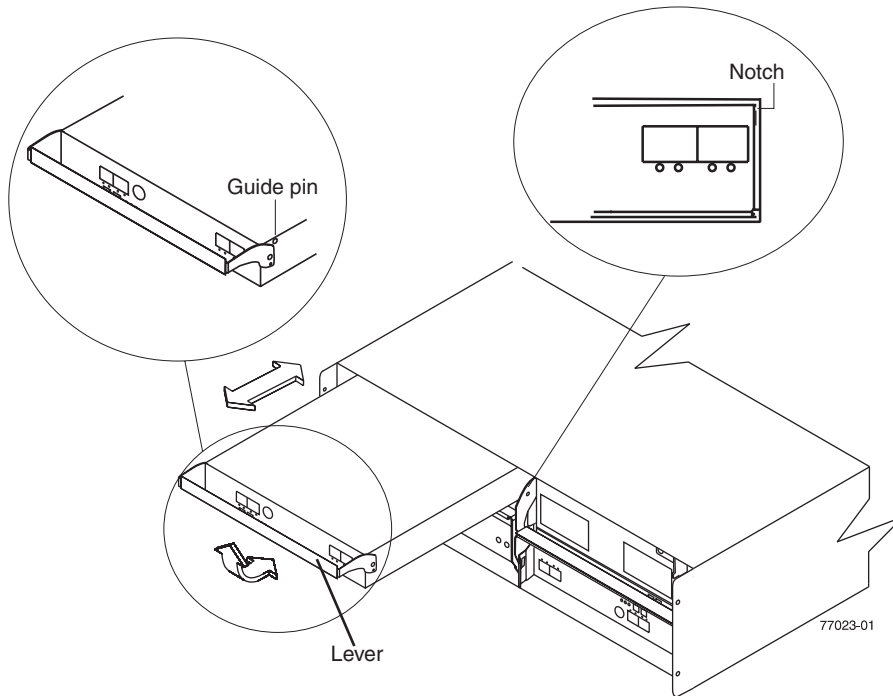

Figure 14. Removing and replacing an Environmental Service Module (ESM)
2. Slowly pull the lever away from the chassis to remove the ESM from the bay, as shown in Figure 14 on page 28.